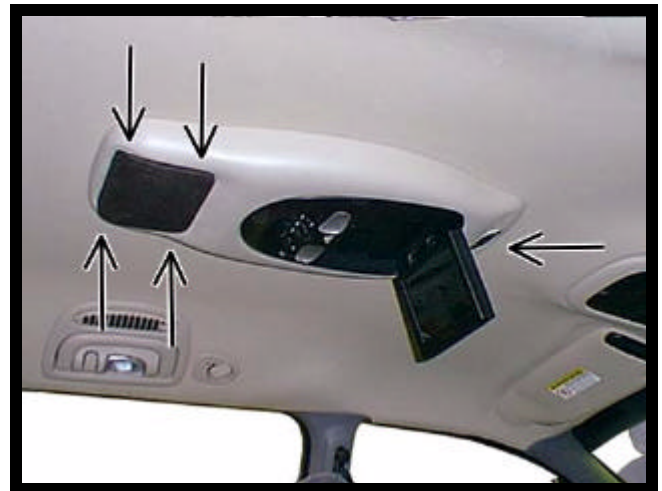

**FIGURE 7**
15. Insert video system into opening in console. **Note: Make sure wires do not get pinched between video system and console.** Align holes in housing with clips in mounting bracket. Secure using (4) four 6-32 x 3/4" screws (item 2 pg 2) and (4) four 3.5 mm washers (item 3 pg 2). See Figure 7.